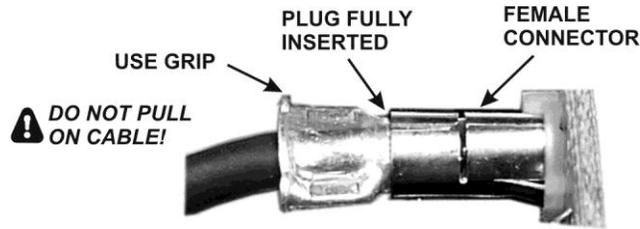

Figure 6. TWP Cable Connectors.
3. Unplug the coaxial cables leading to the K144XV module and set the module aside. The coaxial cables have friction-fit TMP connectors that simply pull out of the sockets (see Figure 6 on pg 9). Pull on the metal connector grips. Do not pull on the coaxial cable. If needed use your needle-nose pliers to grasp the metal grips on the connectors.
- Temporarily remove the coaxial cables at J2 and (if present) J1 on the KREF3 board. Handle the connectors by the grip (see Figure 6). Do not pull on the black coaxial cable.
Plug the TMP connector on the end of the coaxial cable you installed earlier into the connector on the KREF3 board that extends through the front panel shield. Handle the connector by the grip using your needle-nose pliers. Be sure the connector is fully seated (see Figure 6 on pg 6).